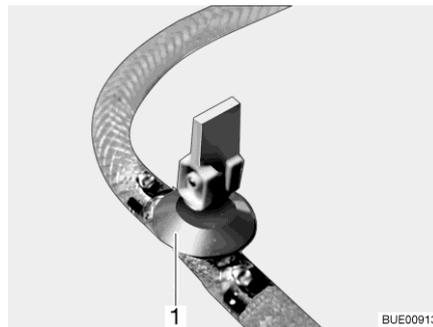
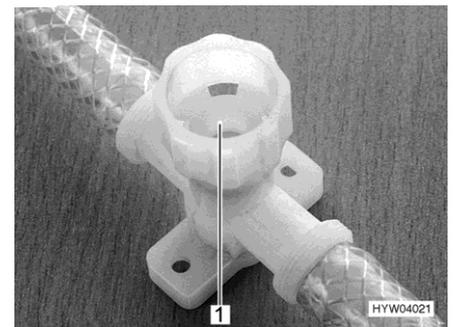

Fig. 248 Drain cock (with rocking lever)
Fig. 249 Drain cock (with twist cap)
- Close all drain cocks. To do this, position the drain cock's rocking lever (Fig. 248,1) horizontally or turn the drain cock's cap (Fig. 249,1) in a clockwise direction.